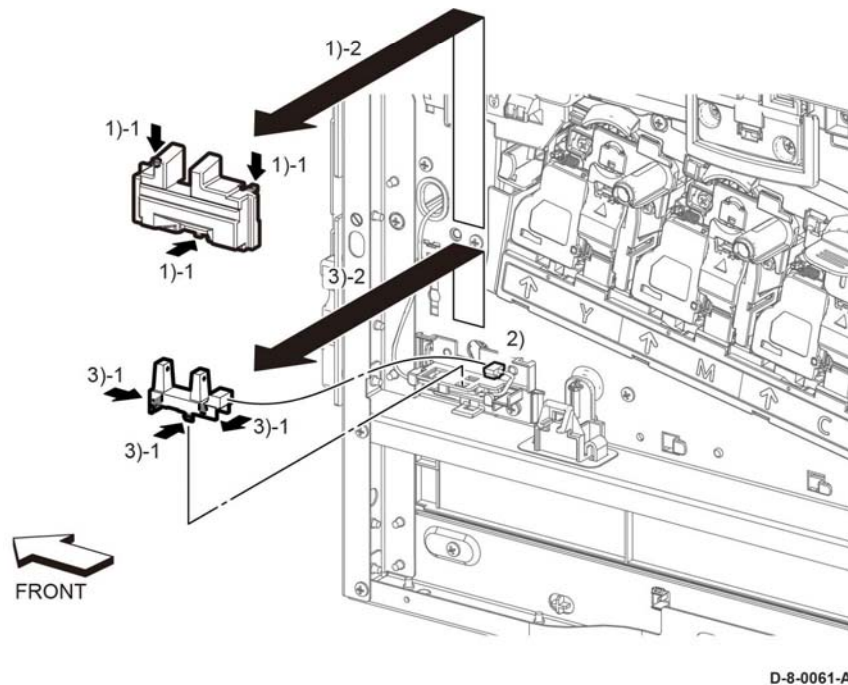

Figure 1 Remove the Toner Full Sensor
2. Refer to Figure 1 to release the three hooks on the Clear Cover starting with the bottom hook and remove the cover.
3. Refer to Figure 1 to release the three hooks attaching the Toner Full Sensor to the sensor holder and remove the sensor.
4. Refer to Figure 1 to unplug the connector (P/J485) from the sensor.